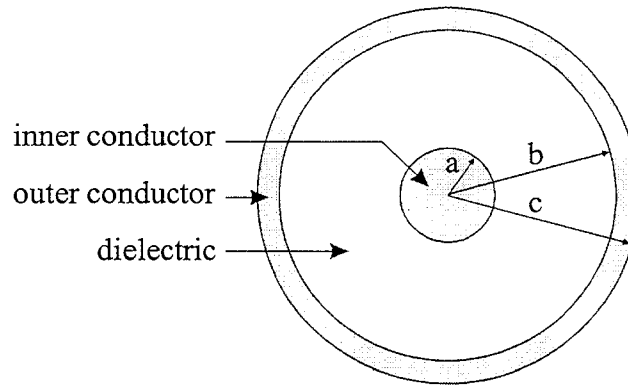

Figure 4, A coaxial cable
4. Figure 4 shows the cross-sectional view of a coaxial cable, consisting of a solid inner conductor of radius a , and an outer conductor with radii b and c . The space between the conductors is filled with a dielectric.